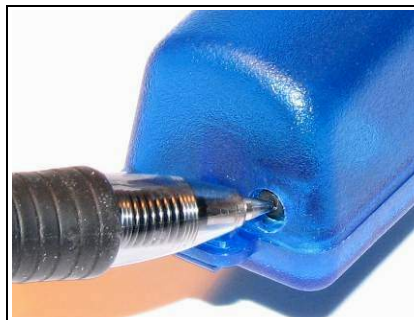

Figure 2: Starting the X16-4
- Step 5: Press the button located at the rear of the enclosure to initiate data recording, (see Figure 2). The red LED1 will blink as the configuration file is accessed. If the time.txt file is present, the RTC is initialized with the time written in the file. The blue LED2 will begin to blink at a 1 second interval indicating the system is operating. The red LED1 will blink periodically as data is written to the microSD card.